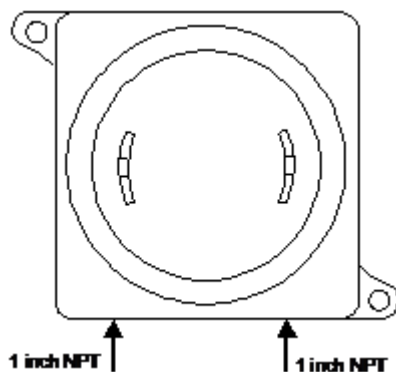

Figure 27: Four-Channel Intrinsically Safe Power Supply model TC-PPD1X1.
- 1 Position the power supply housing at the desired location on the panel. Hold the housing in place and use a center punch to mark the location of the mounting holes on the panel. See Figure 27-A or 27-B for mounting dimension reference, depending on model.